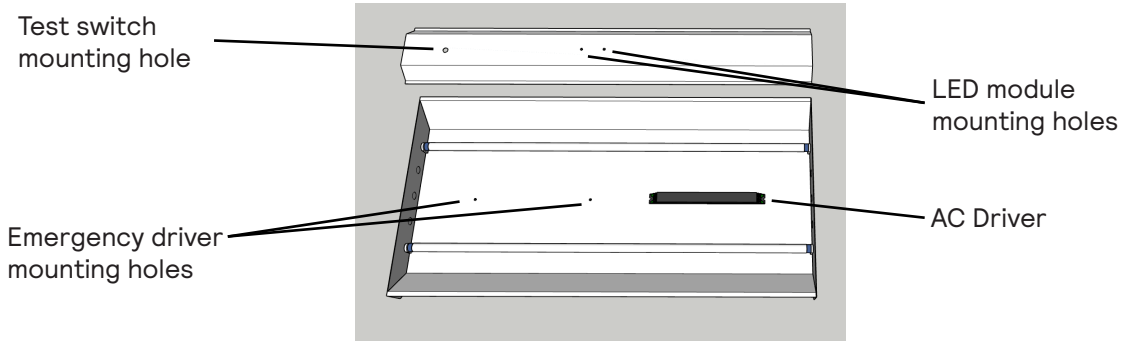

Figure 2. New hole location details
- D. For the installation of the emergency driver and LED module, you will need to drill holes in the positions illustrated in **Figure 2** ((2) 1/8" holes for driver, (2) 1/8" holes for module, and one 1/2" hole for test switch). If the luminaire differs from the one illustrated here: